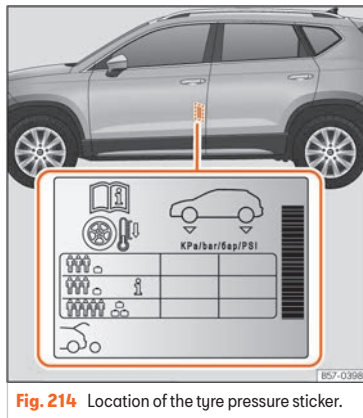

Fig. 214 Location of the tyre pressure sticker.
- Adjust tyre pressure to the load being carried by the vehicle ►►► Fig. 214.
The values of the tyre pressure are shown on the sticker label located on the read frame of the front left door >>> Fig. 214.
The tyre pressure must be adjusted according to the load the vehicle is carrying. If the vehicle is going to be fully loaded, increase the tyre pressure to the maximum load value shown on the sticker label >>> Fig. 214.
In the case of a minimised temporary spare wheel (125/70 R16 or 125/70 R18) inflate to a pressure of 4,2 bar as indicated on the tyre pressure label >>> Fig. 214.
Depending on the vehicle, tyre pressure can be adjusted to medium load to improve driving comfort [tyre pressure **i** >>> Fig. 214]. When driving with comfort tyre pressure fuel consumption may increase slightly.
- The driver is responsible for ensuring that all of the vehicle tyres are correctly inflated to the right pressure. The recommended tyre pressure is indicated on the label >>> Fig. 214.
- Tyre pressure should be that indicated on the label when the tyres are cold at all times >>> Fig. 214.